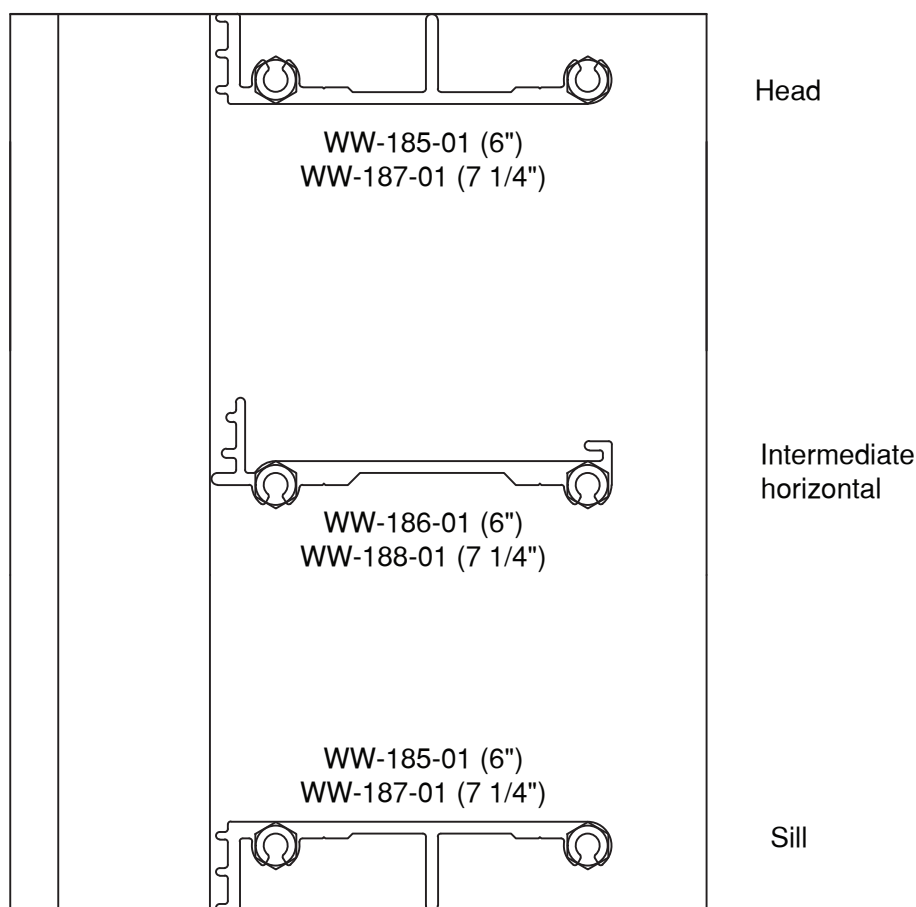

FIGURE 7
- 2.1.1 Attach shear blocks to all vertical members. **SEE FIGURE 7** for proper orientation and installation on mullion.
SEE FIGURE 7 for proper orientation on mullion.
- 2.1.10 Attach shear blocks to all vertical members. **SEE FIGURE 7, page 8** for proper orientation on mullion.